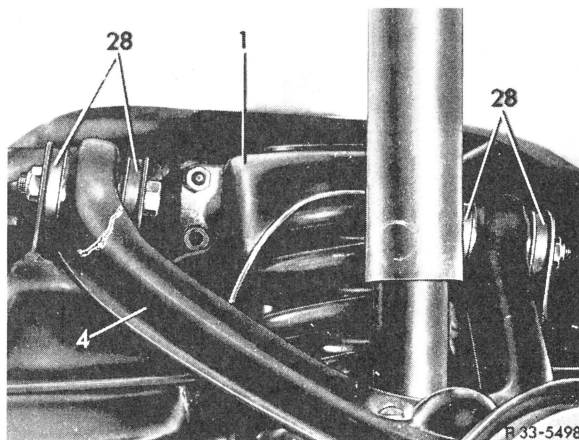

Fig. 5
**7** Loosen both hex. bolts of upper control arm bearing (Fig. 5).